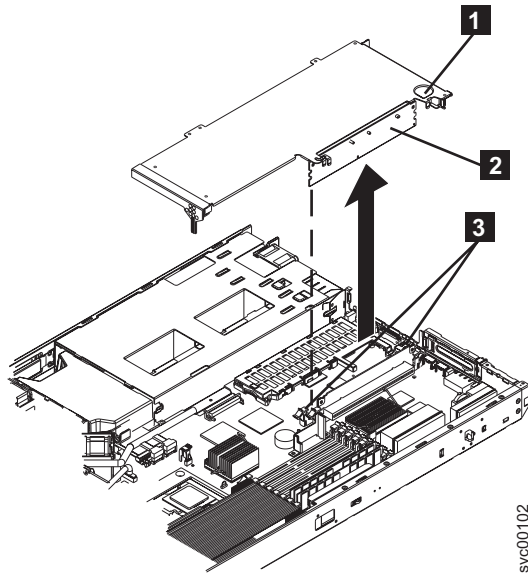

Figure 197. SAN Volume Controller 2145-8F2 or SAN Volume Controller 2145-8F4 slot 2 adapter
- a. Open the retaining clips on both sides of the slot 2 riser card (**2** in Figure 197 on page 528) by pushing the clips down and away from the riser card until the clips are no longer attached to the riser card.